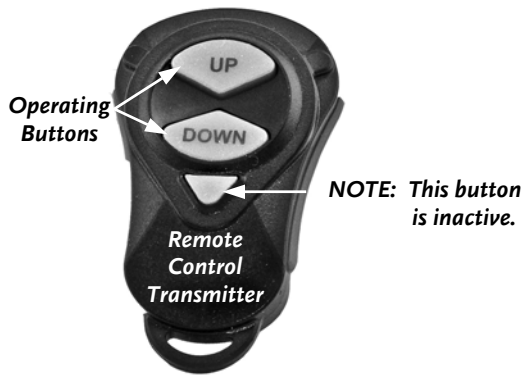
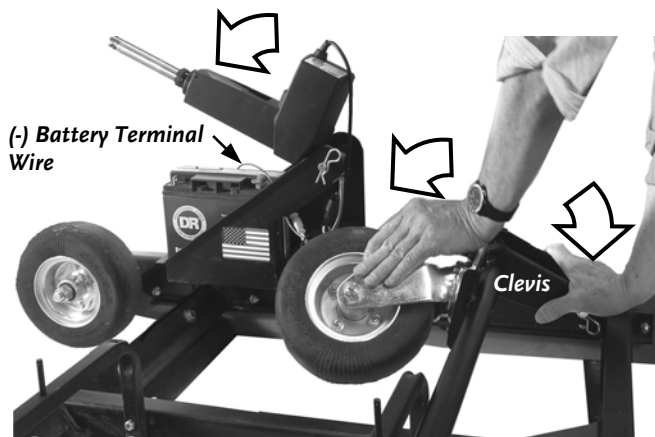

Figure 6
Figure 7a
10. Press the Remote Control Transmitter Operating Buttons (**Figure 6**) to see if the Transmitter operates the Actuator properly. UP should retract the Actuator Arm and DOWN should extend the Actuator Arm. If it functions correctly, extend the Actuator Arm and disconnect the Negative Battery Terminal Wire (**Figure 7a**), keeping it away from the Terminal.
11. Rotate the Linear Actuator up and to the rear, leaving it in this position (**Figure 7a**).
12. Press down on the Clevis (**Figure 7a**) to raise the Casters. Rotate both Casters 180° and release the Clevis. The Clevis will then rise above the Frame for attachment of the Linear Actuator Arm (**Figure 7b**).